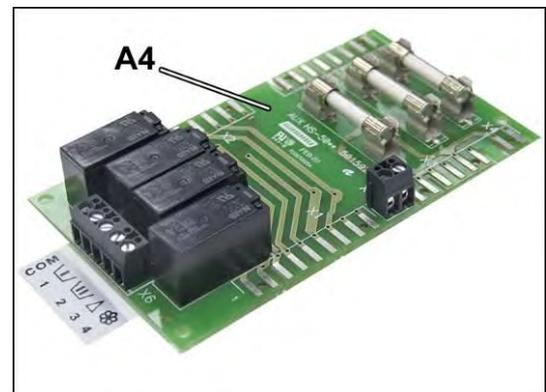

Fig. 3.18
• Connect the cables between the washer and the dosing unit to **A4** board in the order indicated in the table in section 3.6.4. (Figure 3.18).